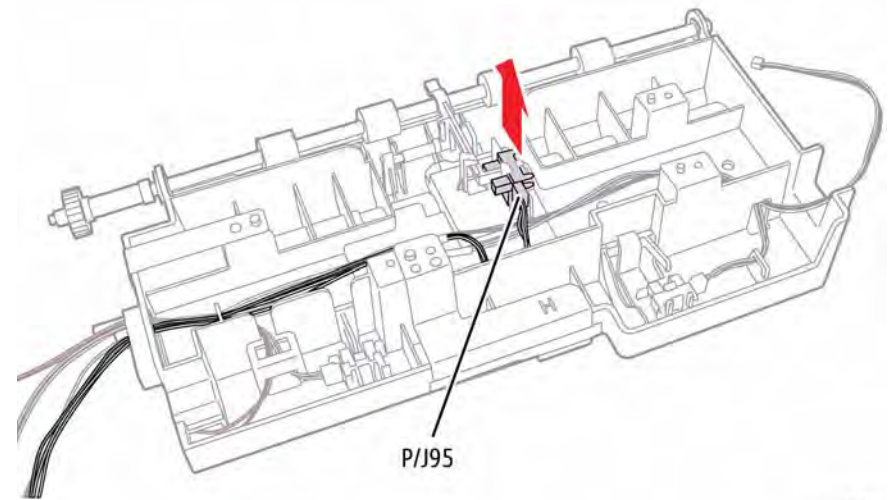

Figure 1 Remove the HCF Take Away Sensor
8. Disconnect P/J95 and release 2 hooks that secure the sensor to the HCF Feed Assembly, Figure 1.